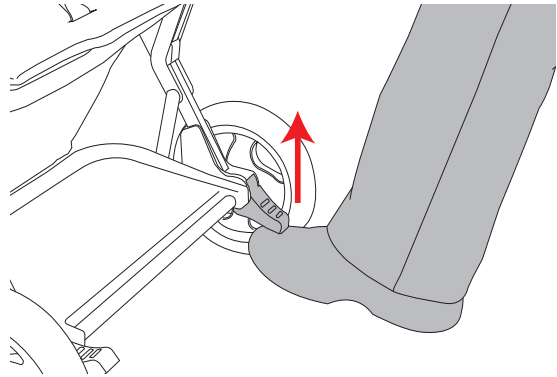

Figure 13
- To release the brakes, gently lift up on the brake levers. See Figure 13.